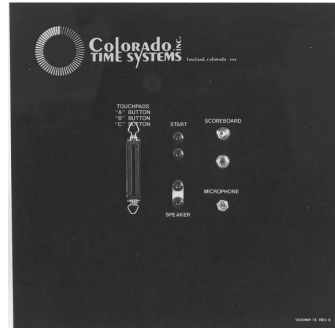

Figure 16 - Wall Plate
- 1) Use a toothbrush coated with rubbing alcohol to clean the wall plate (Figure 16) by gently rotating the toothbrush bristles in the over the connection sockets. There is no need to rinse with water because the alcohol will evaporate.